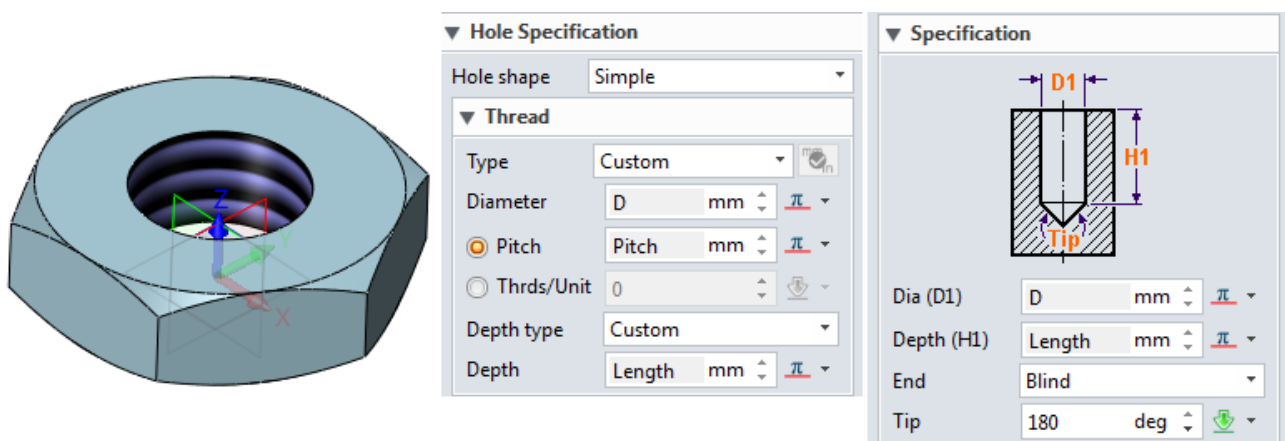

Figure4 Parametrical Nut Model
STEP 03 Create the thread-hole feature. Set the hole parameters with the variables, as shown in Figure4.